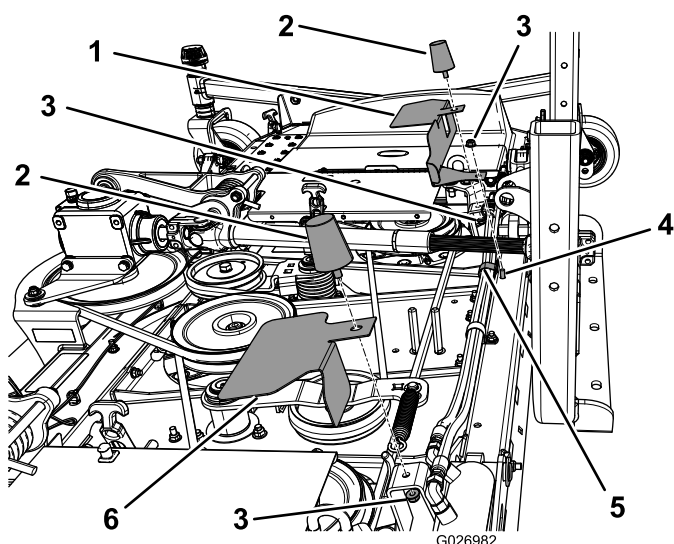
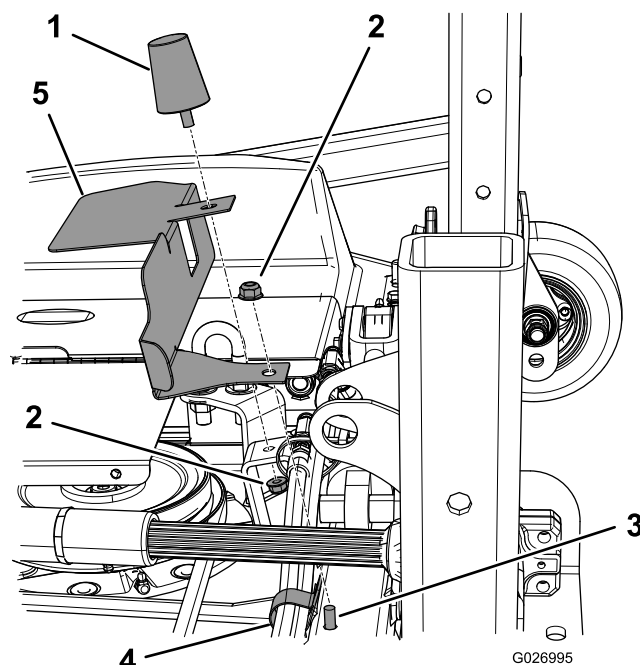

Figure 4
Figure 5
1. Remove the left and right bumpers (Figure 4).
3. Install the shields as shown in Figure 4 and Figure 5.